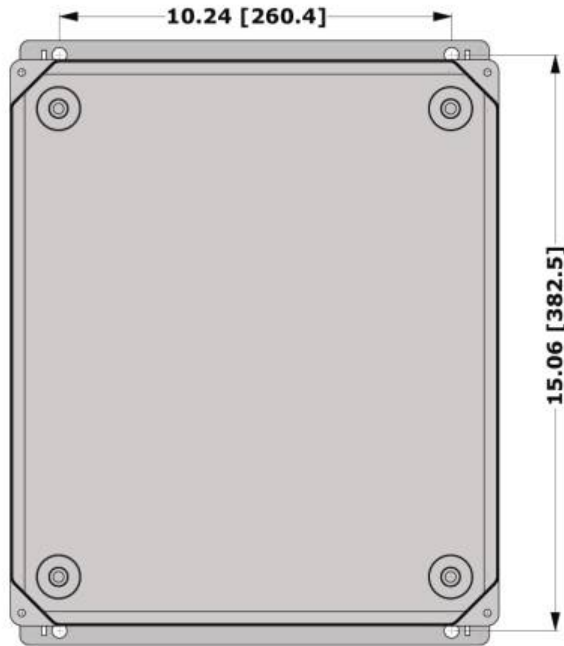

Figure 4-1: 465M Mounting Hole Locations and Dimensions
- Figure 4-1 shows the locations of the four mounting holes.